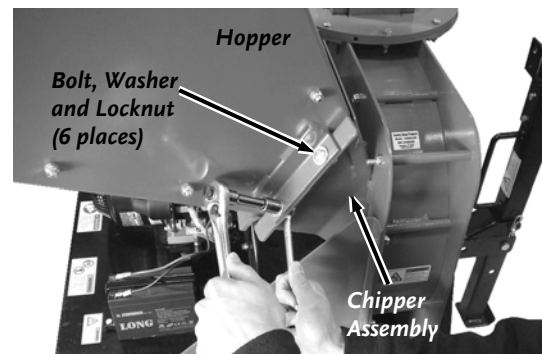

Figure 34
1. Have someone support the Hopper as you use two 1/2" wrenches to remove the six Bolts, Washers and Locknuts that support the Hopper to the Chipper Assembly (**Figure 34**).